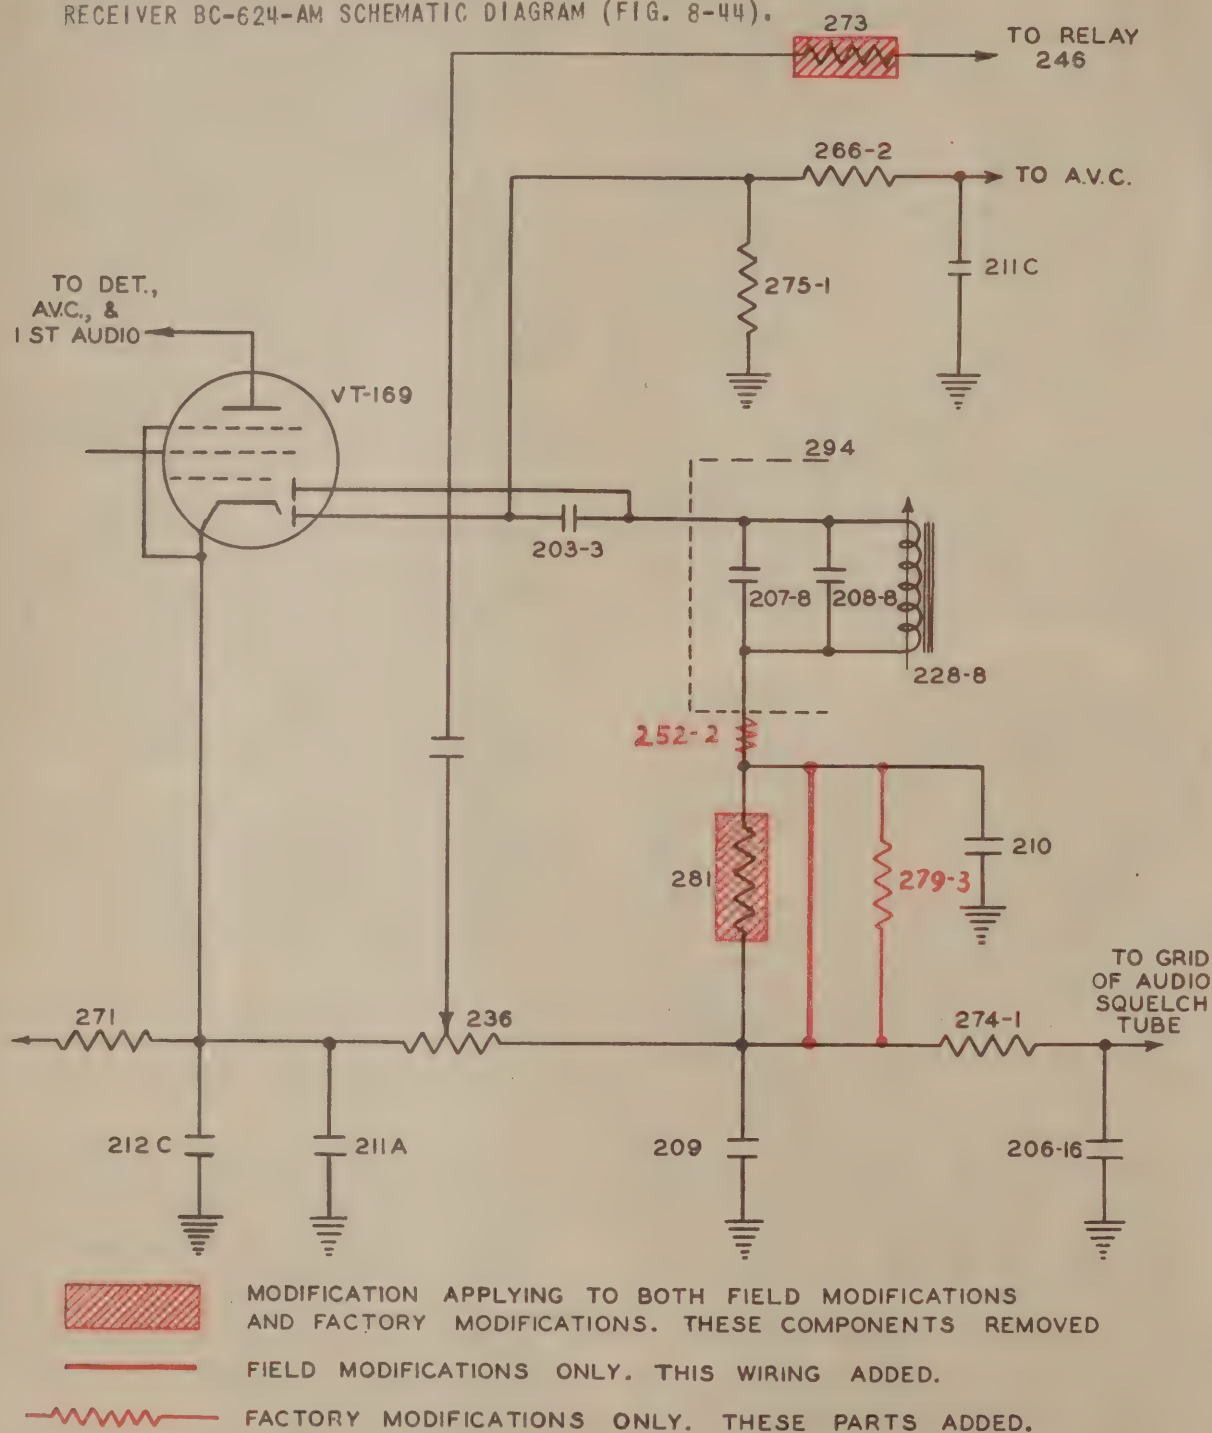

Figure 4-4. Radio Receiver BC-624-A—Rewiring of Squelch Circuit
(1) The purpose of the squelch-circuit is to keep objectionable noises out of the receiver headsets when no carrier is being received.
(2) One triode section of tube JAN-12AH7GT (VT-207) is used to operate the audio squelch relay 246. A portion of the d-c component of the audio voltage developed at the audio diode of the second detector tube JAN-12C8 (VT-169) when an r-f carrier is being received, is coupled to the grid of tube JAN-12AH7GT (VT-207). The audio voltage variations are smoothed out by capacitor 206-16 leaving only the average value of the rectified voltage to be applied to the grid of the audio squelch tube.
(3) The cathode of this triode section of tube JAN-12AH7GT (VT-207) is connected to a bleeder-resistor network consisting of resistors 279-1, 279-2, 282 and potentiometer (relay control) 237. This network, connected between +300 volts and ground, puts a positive voltage on the cathode, the potential of which may be controlled by potentiometer 237.
(4) Additional grid bias is determined by the magnitude of the d-c component of the diode current flowing through resistor 279-3 and, therefore, varies with the strength of the signal carrier.
(5) The audio-squelch tube is biased nearly to cut-off, and on received signals the additional bias cuts off current through tube JAN-12AH7GT and relay 246 is released. With no signal the bias is removed, current again flows in the tube and relay 246 closes. With the relay contacts closed the audio voltage from the diode of tube JAN-12C8 (VT-169) is shorted to ground. The opening of this relay contact restores the receiver output to normal. (See fig. 4-4.)
(6) The bias on the squelch tube JAN-12AH7GT (VT-207) may be regulated by potentiometer 237, thus the sensitivity of the squelch circuit may be adjusted.